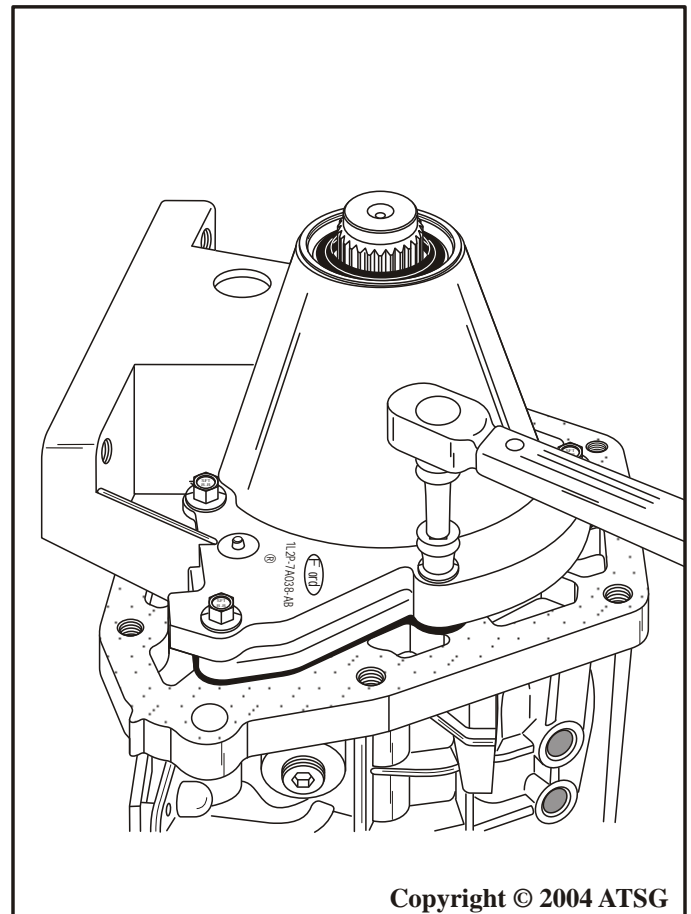

Figure 181
6. Torque the extension housing bolts down to 26 N•m (19 ft.lb.), as shown in Figure 181.